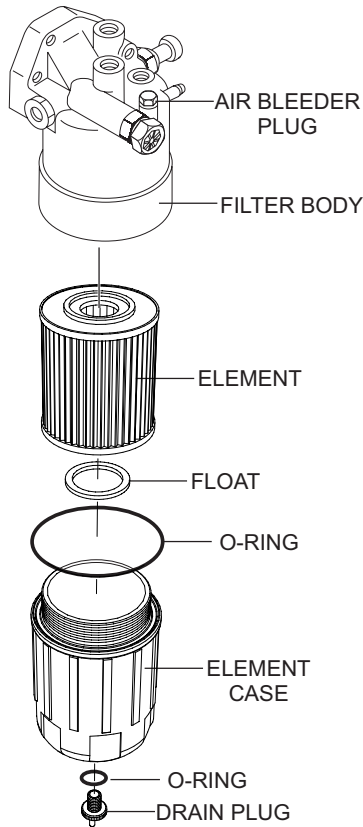

Figure 65. Fuel Filter Replacement
- Using a **filter wrench**, remove the **element case** from the **fuel filter body** (Figure 65).
- Wipe the inside of the **filter body** (Figure 65) with a clean cloth to remove any foreign matter or debris that may have accumulated.